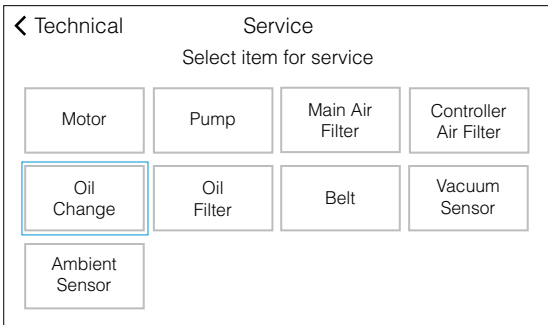

FIGURE 59. PRESS OIL CHANGE
- 9. On the Service screen, press **OIL CHANGE** (FIGURE 59).